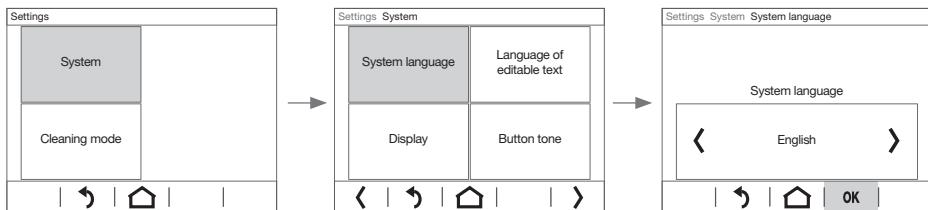

Figure 5: Example of setting the system language
The display changes to another page where you must select once again, or it changes directly to the setting of the parameter (Figure 5).
- With **-/+** decrease/increase the parameter value, with **> / <** scroll to a preset value (Figure 5) or with **[ON]** / **[OFF]** activate/deactivate the parameter (Table 1).